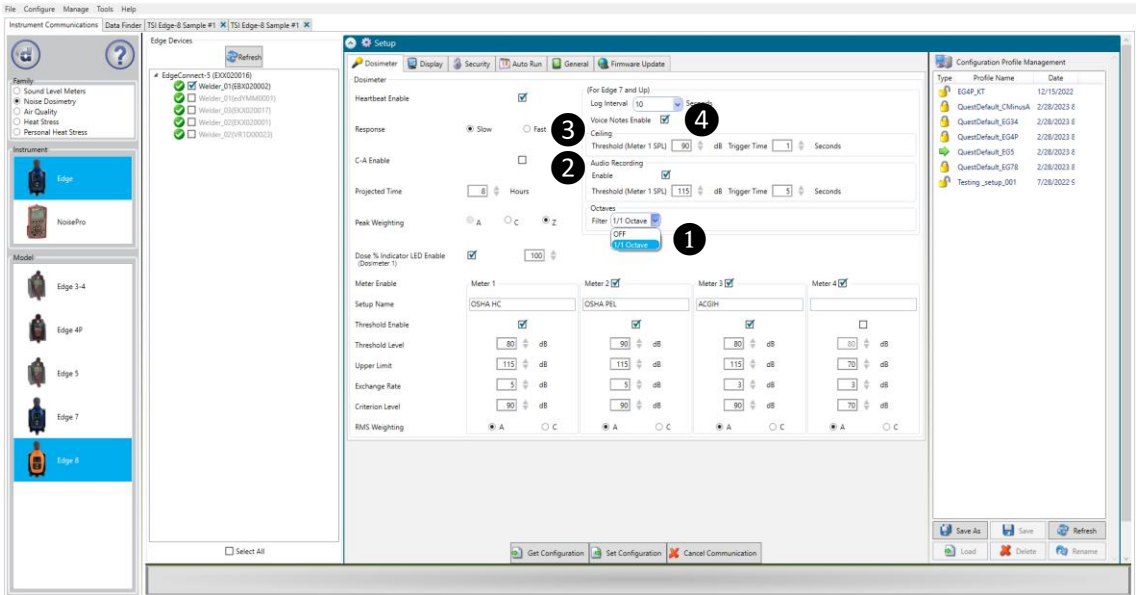
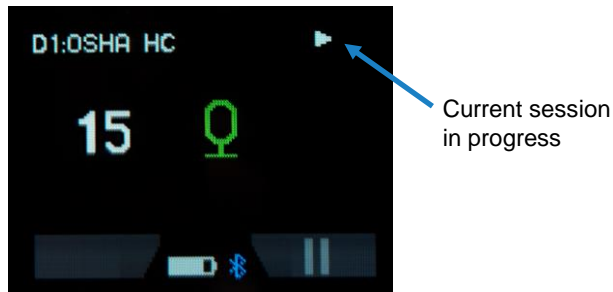
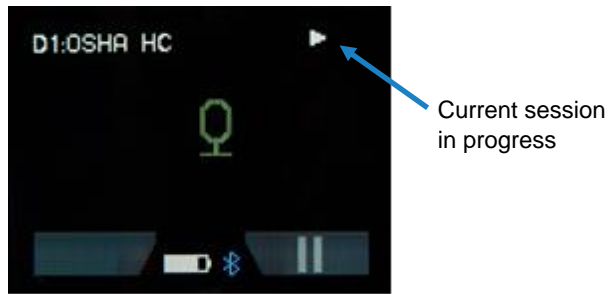

Figure 3-7: DMS Edge dosimeter parameter setting screen
Figure 3-8: Voice note recording screen
Figure 3-9: Automatic Audio recording screen
Voice Notes Enable	When enabled (checked) in DMS, the user can, by the press of a button on the Edge, make 14-second verbal notes about, for example, location, description, or noise events. These recorded audio events can be viewed and played on the Logged Data Chart panel (see ④ Figure 3-7).
Ceiling	The Ceiling function, which is always enabled on the Edge, will increment a counter whenever the sound level measured by meter 1 has exceeded the specified threshold level for the specified trigger time. This recorded counter value can be displayed on the Summary Data panel by enabling the Ceiling Exceeded Count measurement (see ③ Figure 3-7).
Audio Recording	When enabled (checked) in DMS, this function will automatically record 14 seconds of an audio noise event whenever the sound level measured by meter 1 exceeds the entered threshold level for the entered trigger time. The resulting audio events can be viewed and played on the Logged Data Chart panel (see ② Figure 3-7).
Octaves Filtering	Octaves Filtering applies to meter 1 only. The resulting data can be view in the Summary Data and Filter Summary Chart/Table panels. It displays the SPL (Sound Pressure Level), Lavg, and Lmax values/graph, among others, for each frequency band in a given audio spectrum. There are two Edge Octaves Filter settings: <ul style="list-style-type: none"> ▪ OFF – No filtering (for broadband measurements only) ▪ 1/1 Octave – Full octave band analysis (31.5 Hz to 8 kHz) (see ① Figure 3-7).
The EG8 model comes equipped with an octave band filter that can be enabled via DMS. The Octave Band function is only available for Meter 1 (see Figure 3-7).
The EG8 is equipped with a voice note capability (see Figure 3-7). To start a recording, press the side button of the EG8 once. A recording screen will appear with 15 seconds countdown (see Figure 3-8). After the countdown, the screen goes back to its original display. This action can be repeated at needed. The recording is automatically saved on the instrument but can only be listened to or visualized in DMS (the study must be downloaded to read the audio file), with the appropriate time stamps. The maximum number of voice notes is 10. If this number is reached, the memory full or voice notes full  symbol will appear. The current session remains uninterrupted while the recording is in progress.
The EG8 can automatically record audio of noise event above a preset dB level. The recorded audio is saved on the instrument and can only be listened to or visualized via DMS (the study must be downloaded to read the audio file). The current session remains uninterrupted while the recording is in progress (see Figure 3-9). A custom trigger time can be set to enable recording only when said noise level lasts over a given time period (see Figure 3-7). This feature is especially useful for quick diagnostics and allows for time savings in noise data analysis. Each recording lasts 15 seconds, and the maximum number of audio recording is 10. If this number is reached, the memory full or audio recording is full  symbol will appear.